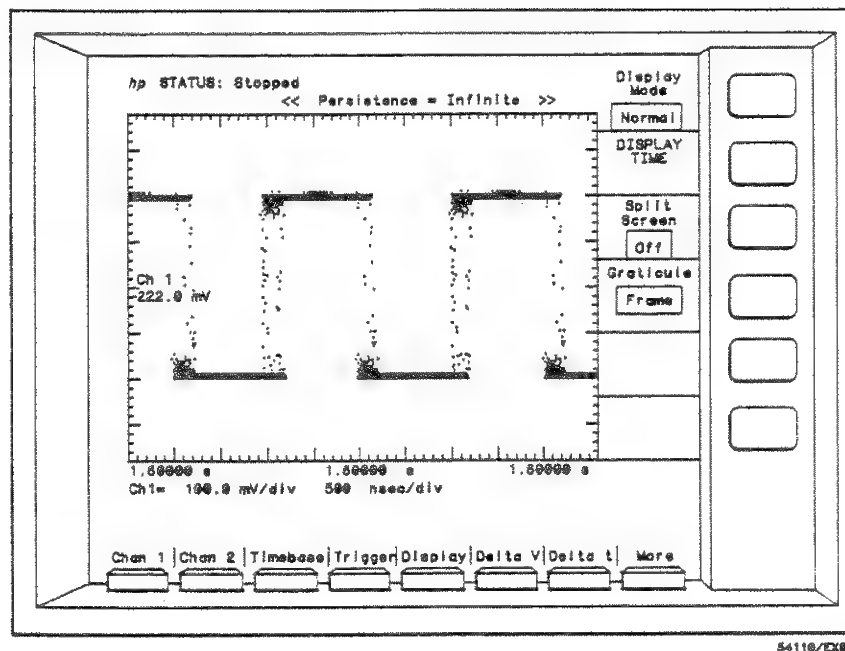

Figure 7-11. Time Jitter in the Normal Mode
9. Set the DISPLAY TIME to Infinite using the entry devices. Notice that after several acquisitions, the leading and lagging edges are undefined (see figure 7-11). This is caused by time jitter on the input signal. Unless a signal source is extremely stable it is common to see time jitter of this magnitude when long delays are used. The sample unit that was used demonstrated approximately 500 ns time jitter with 1.6 sec delay. This technique is a perfectly valid measurement of the jitter in the source signal, which you might typically want to measure. This type of jitter measurement is made possible by the extremely stable crystal referenced timebase. See Section 3 for timebase jitter specifications.